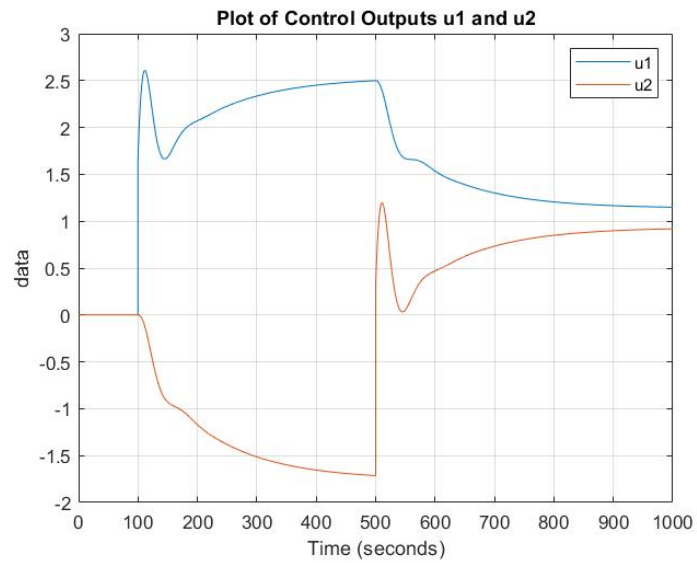
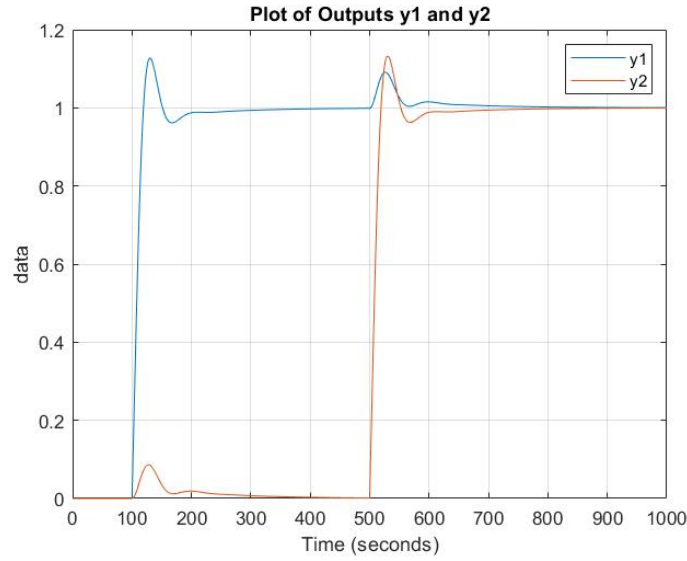

Figure 3: Control Signal plot (Minimum Phase) from exercise 3.2.3
Figure 4: Output plot (Minimum Phase) from exercise 3.2.3
*From the above fig.4 we can see that the peak overshoot for both the outputs is less than 15% and the rise time is less than 20s. Also, the steady state error is zero for both outputs which clearly shows that the controller is good.*
*RGA Analysis for the Minimum Phase Case showed that the control signal  $U_1$  is to be paired with output  $Y_1$  and  $U_2$  is to be paired with output  $Y_2$ . The step input 1 is applied at  $t = 100s$  and step input 2 is applied at  $t = 500s$ . From fig 4 we can see that each input effects both the outputs but for input 1, the output  $y_1$  is affected to a greater extent and the output  $y_2$  is very less affected. Similarly, the input 2 affects  $y_2$  way more than it affects  $y_1$ . On a similar note, from fig. 3 we can see that as  $u_1$  primarily affects  $y_1$  and  $u_2$  primarily affects  $y_2$  even though both control signals have a little affect on the other outputs. This behavior is exactly what we desired.*